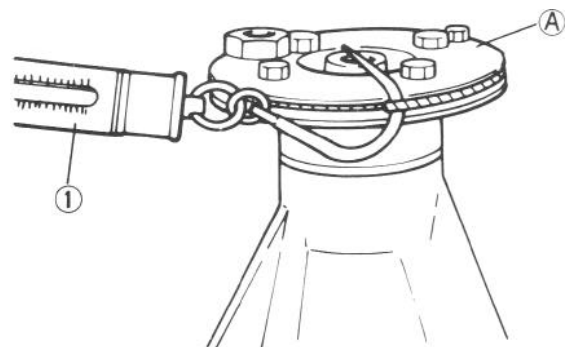

Fig. 16-23 ① Spring balance
The bevel pinion, as installed in normal manner in carrier, is required to offer a certain torque resistance when checked by using prescribed preload adjuster (special tool ①) as shown in Fig. 16-23. This resistance is a "preload," which is due to the tightness of the two tapered roller bearings by which the pinion is held in the carrier. And this tightness is determined primarily by tightening torque of bevel pinion nut. Adjust preload of bevel pinion bearings as follows.
Adjust preload on side bearing during back-lash adjustment: mount special tool on drive bevel pinion as shown in Fig. 16-23 and measure using spring balance
① If reading at the instant bevel gear starts moving is within the range given below, side bearing preload is acceptable. Referring to the graph, for example, when the drive bevel pinion bearing preload measured as shown in Fig. 16-23 is 2.6 kg (5.73 lb), drive bevel pinion bearing preload (kg) + bevel gear side bearing preload (kg) should be 2.8 – 3.2 kg (6.17 – 7.05 lb).